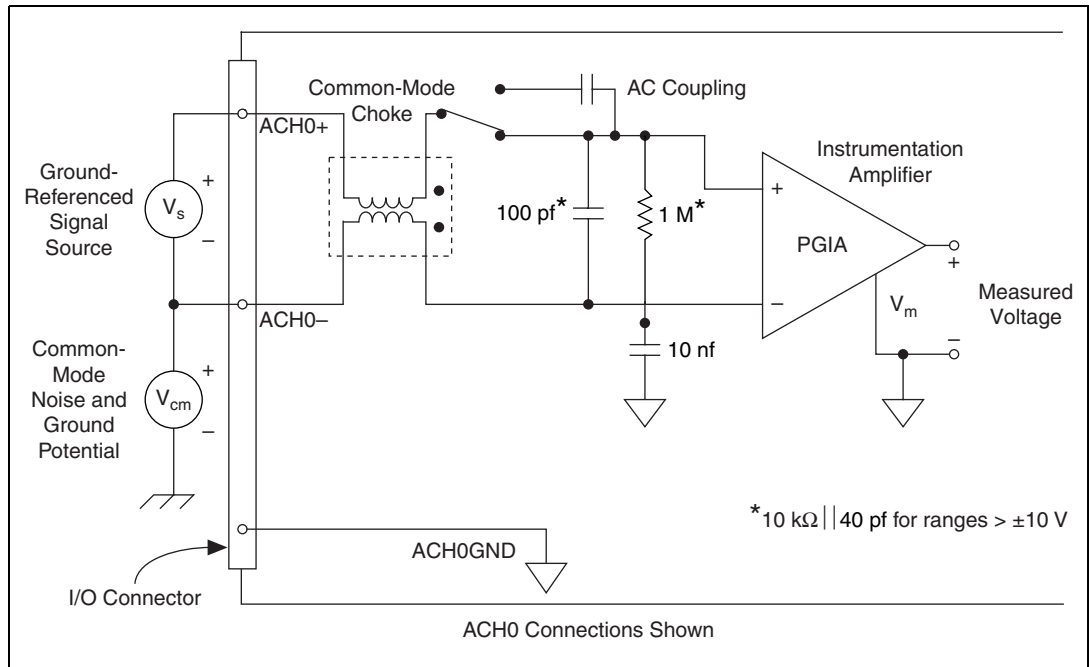

Figure 4-2. Pseudodifferential Input Connections on the NI 6115 for Ground-Referenced Signals
Figures 4-2 and 4-3 show how to connect a ground-referenced signal source to a channel on the NI 6115 and NI 6120, respectively.
With this type of connection, the PGIA rejects both the common-mode noise in the signal and the ground potential difference between the signal source and the device ground, shown as V_{cm} in Figures 4-2 and 4-3.
Figures 4-2 and 4-3 show connections for signal sources that are already referenced to some ground point with respect to the NI 6115/6120. In theory, the PGIA can reject any voltage caused by ground-potential differences between the signal source and the device. In addition, with pseudodifferential input connections, the PGIA can reject common-mode noise pickup in the leads connecting the signal sources to the device.
1. The common-mode voltage (V_{cm}), which is equivalent to subtracting ACH<0..3>GND from ACH<0..3>- and which is shown in Figure 4-2, must be less than ± 2.5 V. This V_{cm} is a constant for all range selections.
2. The signal voltage (V_s), which is equivalent to subtracting ACH<0..3>- from ACH<0..3>+ and which is shown in Figure 4-2, must be less than or equal to the range selection of the given channel. If V_s is greater than the range selected, the signal clips and information is lost.